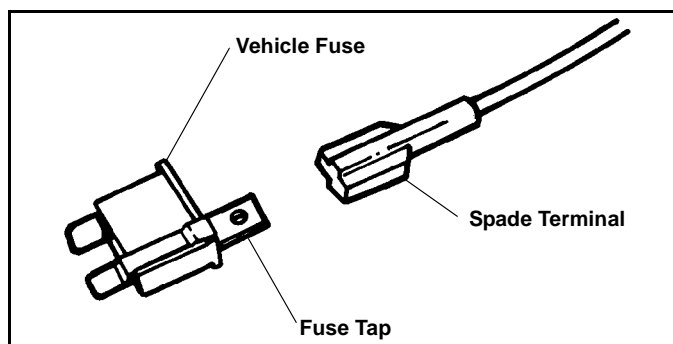

Figure 1-5
16. Using a test probe, determine the fused "Dead/OFF" side of the fuse and attach the A.T.O. fuse tap to that side of the fuse. (See Figure 1-5).